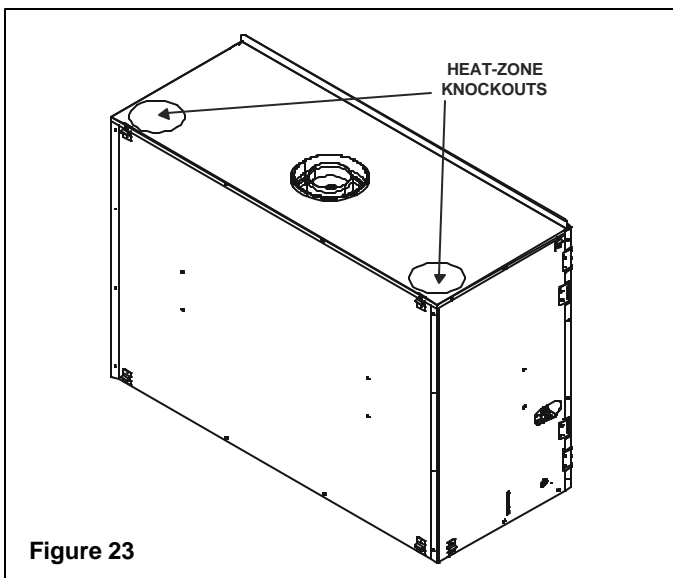

Figure 23
1. Remove the knockout from the top of the fireplace and discard it (see Figure 23).